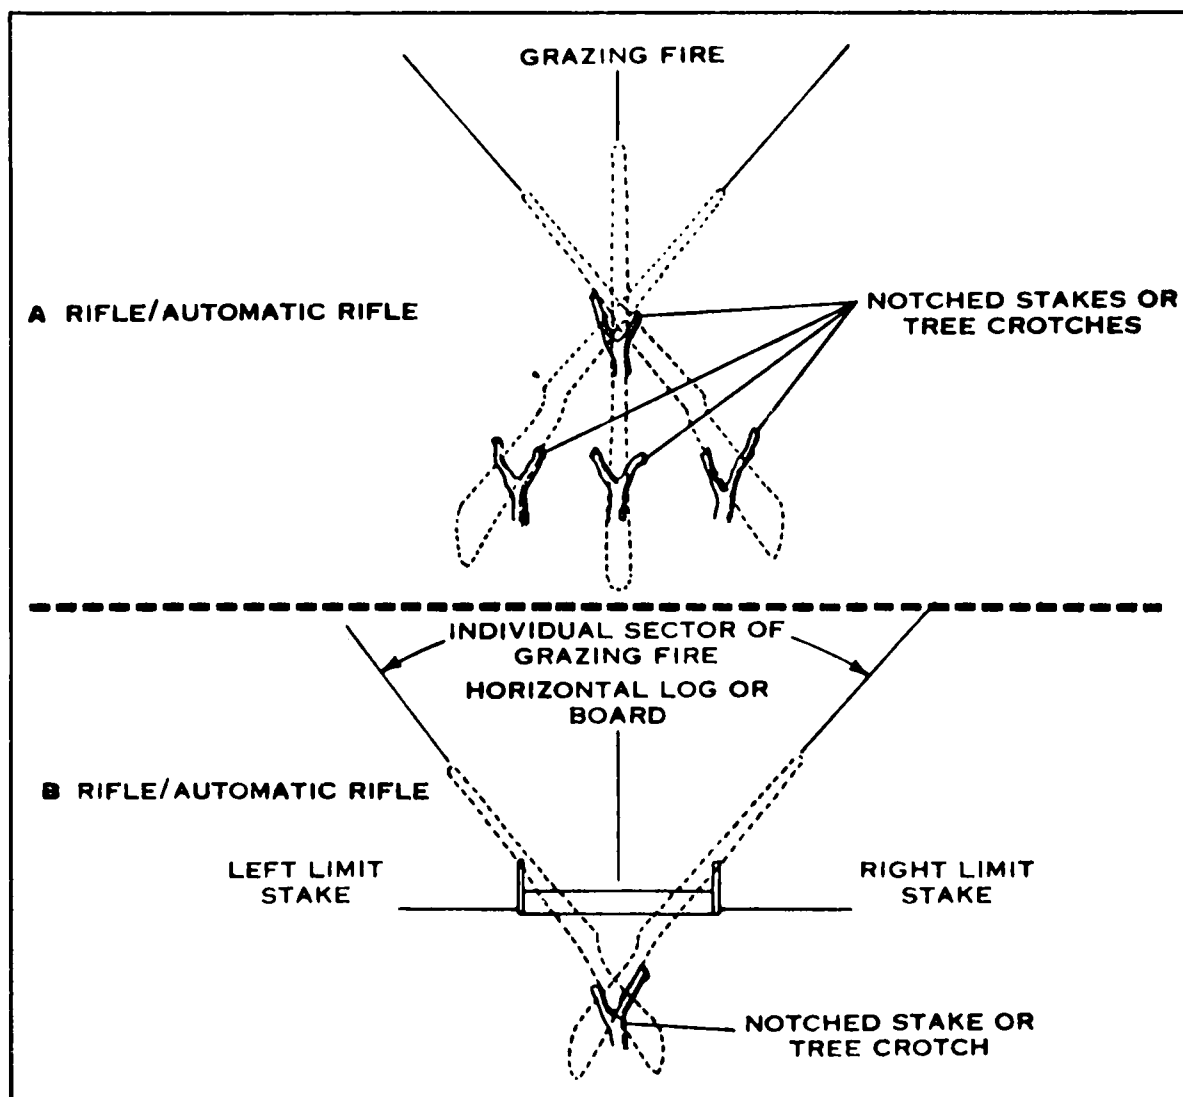

Figure 1.
2. Prepare field expedient aiming, firing, and limiting stakes (notched stick or tree crotch, rocks, board or log) which are able to support the weight of your weapon (fig. 1).
6. By using additional stakes or horizontal board or log you can lay the weapon for grazing fire along more than one line or to cover an entire sector depending on the terrain (fig. 1).